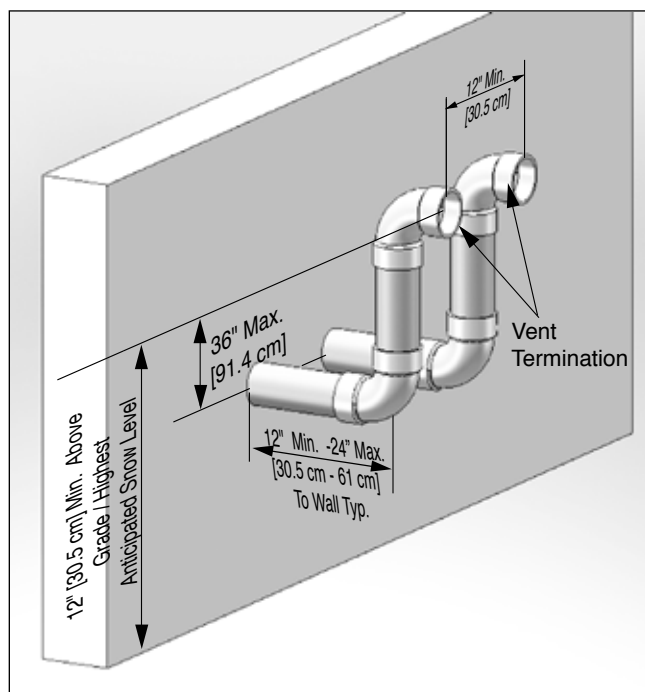

Fig. 20 - Category IV - Sidewall Termination of Multiple EXALT Boilers
2. Each vent termination must be a minimum 12" [30.5 cm] from the adjacent termination for installations in the U.S. as shown in *Fig. 20 below*. For installations in Canada, provide clearances as required by CAN/CSA B149.1.